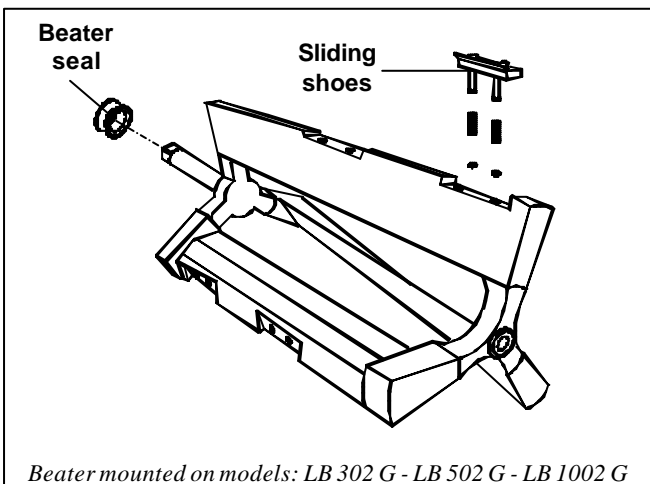

Figure 12
- Disassemble sliding shoes, completely (ref. Fig. 12).
- Remove the beater lip seal from its seat on the beater shaft (ref. Fig. 12).